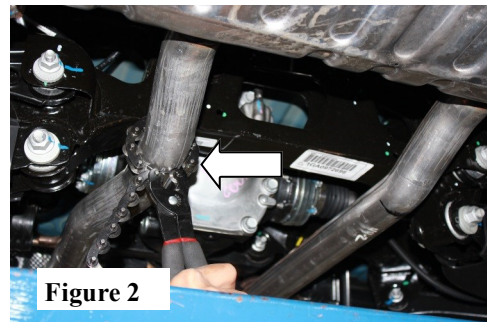

Figure 2
4. Cut both pipes at marks using a metal cutting saw. (See Fig. 2)